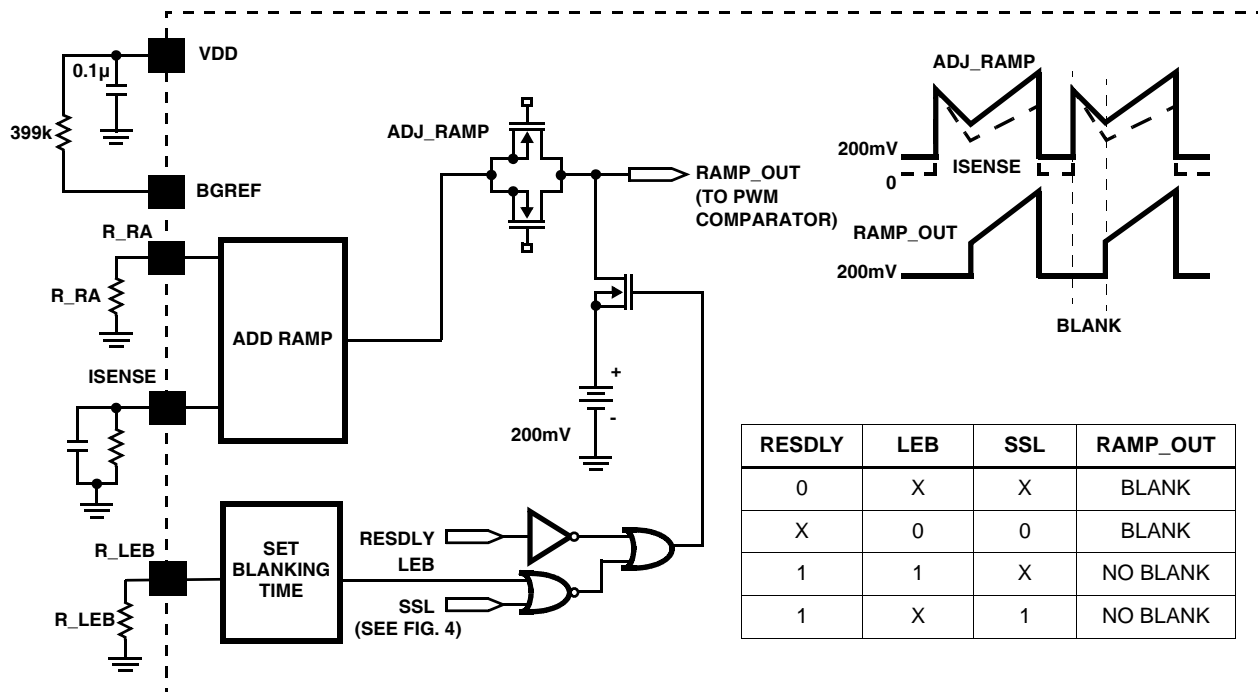

FIGURE 9. SIMPLIFIED RAMP ADJUST AND LEADING EDGE BLANKING CIRCUITS
- The ramp adjust block adds an offset component (200mV) and a slope adjust component to the ISENSE signal before processing it at the PWM Logic block, as shown in Figure 9. This ensures that the ramp voltage is always higher than the OAGS (ground sensing op amp) minimum voltage to achieve a “zero” state.
- Typical ramp values are hundreds of mV over the period on a 3V full scale current. Too much ramp makes the controller look like a voltage mode PWM, and too little ramp leads to noise issues (jitter). The amount of ramp (Vramp), as shown in Figure 9, is programmed with the R\_RA resistor and can be calculated with Equation 10.